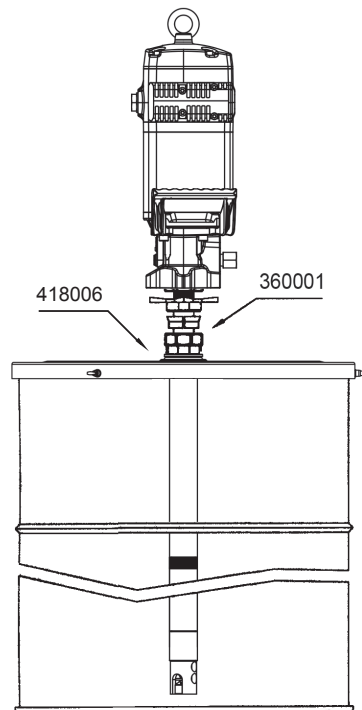

Fig. 2
- b.** Mounting with cover (418006 for 185 kg drum) and bung adaptor 360001. Fasten the cover onto the drum and screw the nut of the bung adaptor securely into the 2" bung opening of the cover. Insert the pump through the nut and adjust it with the star nut to the desired height (see figure 2).